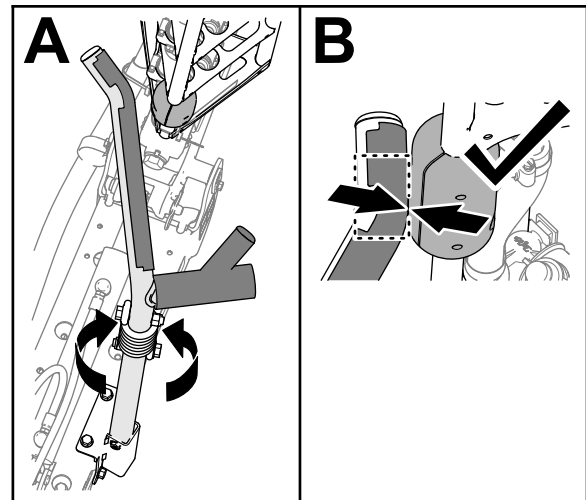

Figure 107
4. Rotate the cradle assembly until the bend in the cradle tube aligns with the slide block on the top tube of the outer boom (Figure 107)
Note: The blocks must contact the cradle at the bend in the upper cradle tube (Figure 107).